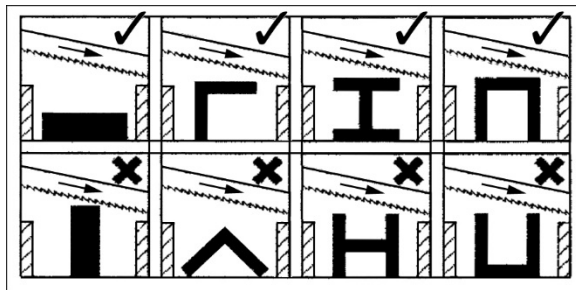

Figure 9-1: clamping positions
- Position workpiece in vise and tighten vise. Workpiece should be fitted directly between the jaws without adding other objects. When work piece is profiled section, flat piece or special shape, refer to examples in Figure 9-1 for proper clamping positions. The top row shows acceptable clamping positions, the bottom row shows *unacceptable* positions.